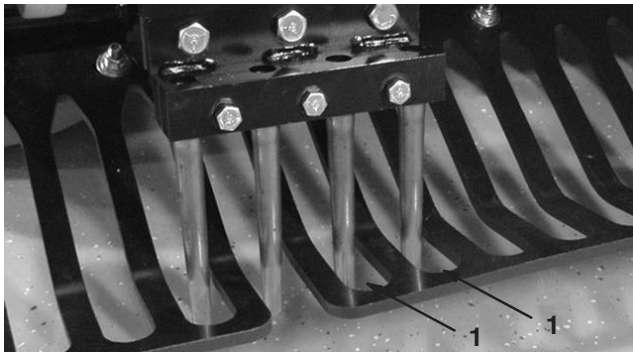

Figure 27
6. Check that the tines line up with the center of the gaps in the turf guards (Fig. 27). Adjust turf guards as required and tighten the nuts.